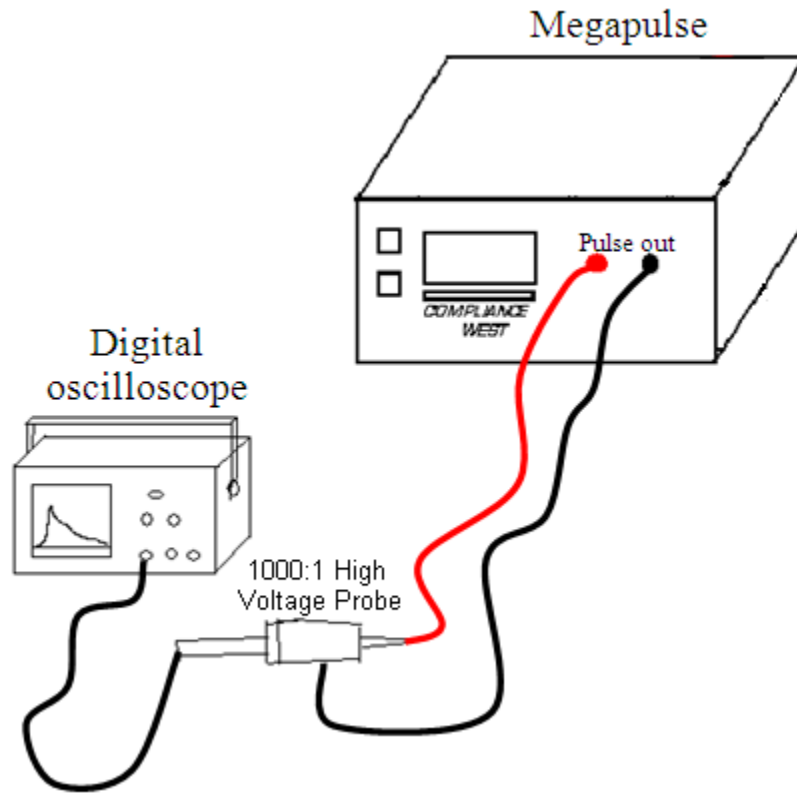

Figure 4. Waveform Measurement Setup
3. Connect the ends of the test leads to an appropriate measuring instrument (typically an oscilloscope with a high-voltage probe). Note that the **RETURN** lead is referenced to the chassis ground of the tester. See Figure 4 as an example.